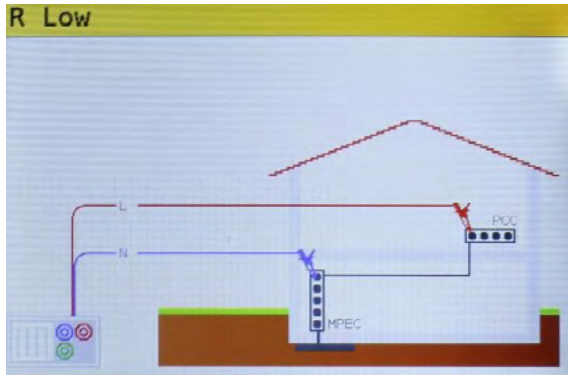

Figure 5.6: Connection of universal test cable
- Step 4** Ensure that the item / circuit for testing is disconnected from any voltage source and that it has been fully discharged. Connect the test cables to the item under test. Follow the connection diagrams shown in figures 5.6 and 5.7 to perform a R Low resistance measurement.